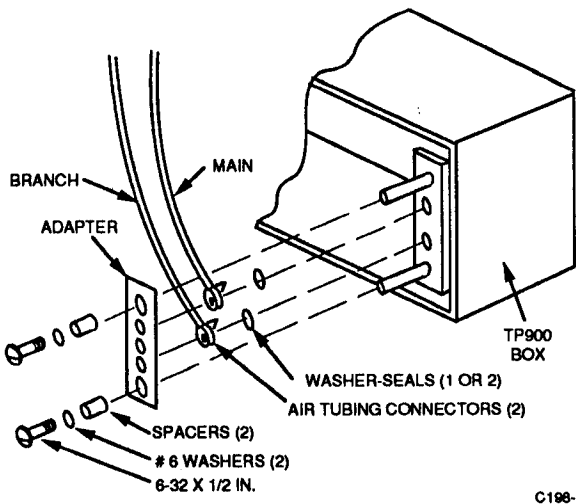

Fig. 1. Adapter Connections, TO900/TP900 Replacement.
1. Attach the air tube connectors to the adapter (Fig. 1).
3. Mount the adapter and tubing assembly to the box (Fig. 1). Make sure the air tube connectors are aligned with their respective outlets.